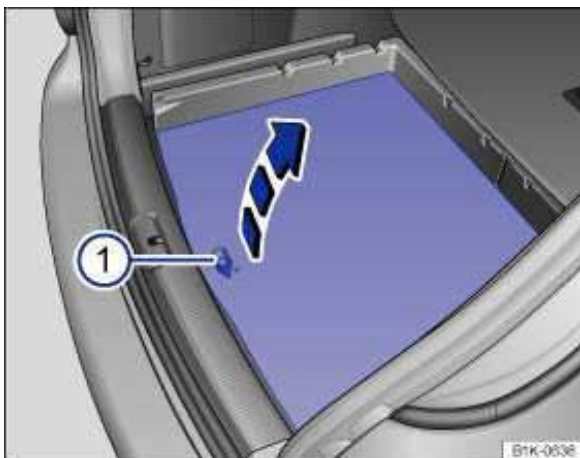

Fig. 179 In the luggage compartment: Lifting up the floor panel.
- Lift the floor covering by the loop ⇒ fig. 179 \(1\) and if necessary remove it from the luggage compartment.